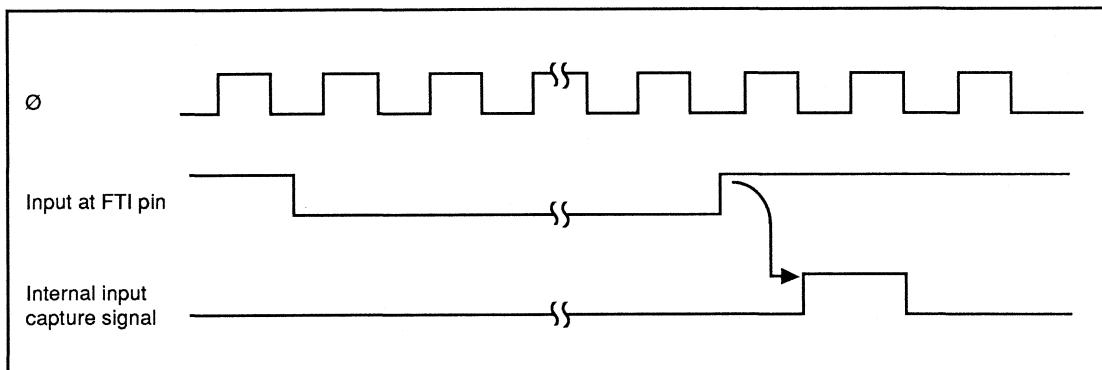

Figure 7-9. Input Capture Timing (Usual Case)
(1) Input Capture Timing without Noise Canceler: An internal input capture signal is generated from the rising or falling edge of the FTI input, as selected by the IEDG bit in the TCSR. Figure 7-9 shows the usual input capture timing when the rising edge is selected (IEDG = 1).
(2) **Input Capture Timing with Noise Canceler:** The noise canceler samples the FTI input, and does generate an internal input capture signal until three to four sampling clock cycles after the rise or fall of FTI. Figure 7-9 shows the timing.